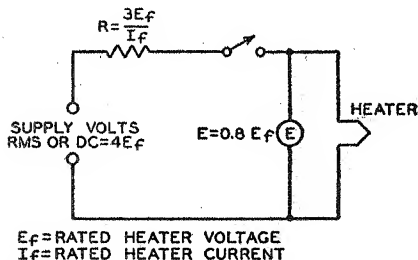

Fig. 124—Test circuit for measuring heater warm-up time.
**Heater warm-up time** is defined as the time required for the voltage across the heater to reach 80 per cent of the rated value in the circuit shown in Fig. 124. The heater is placed in series with a resistance having a value 3 times the nominal heater operating resistance